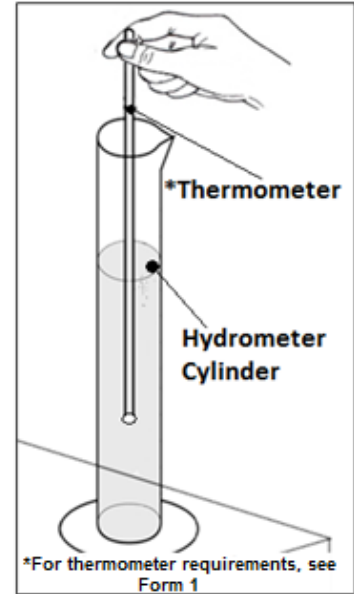

Figure 14A
- Place Hydrometer Cylinder on a level table and using a Thermometer measure the temperature of the solution in the Hydrometer Cylinder immediately (Figure 14A).